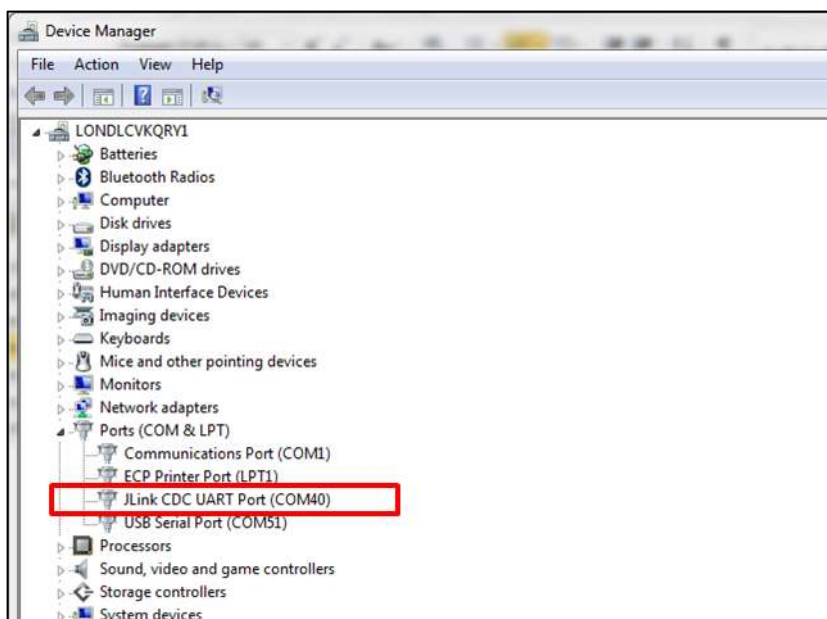

Figure 1: BL620-US as shown in Device Manager
3. Check that the device is listed in the Device Manager. See Figure 1.